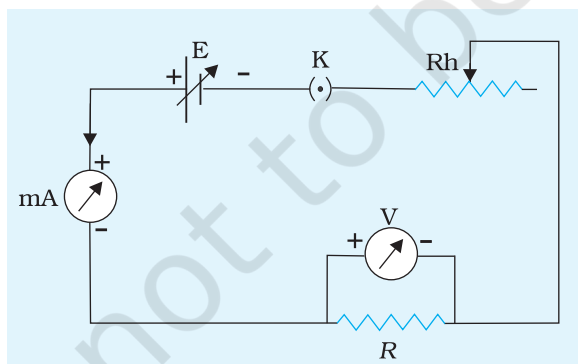

Fig. E 1.2 Circuit to find the relation between current I and potential difference, V for a given wire
2. Connect various components - resistance, rheostat, battery, key, voltmeter and ammeter as shown in Fig. E 1.2.